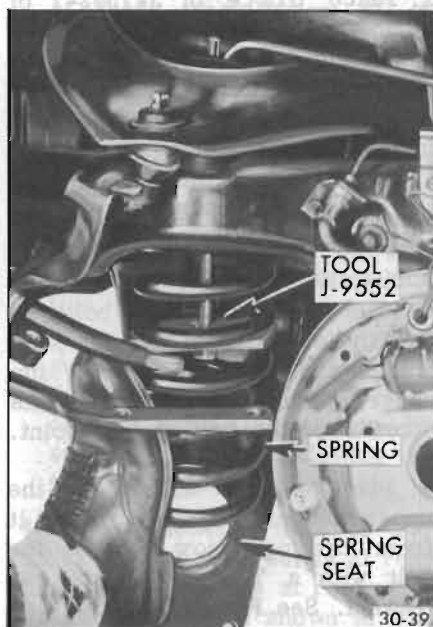

Figure 30-41—Pushing Spring onto Lower Control Arm Seat
6. Force the spring on its seat in the lower control arm as shown in Figure 30-41. Remove tool.